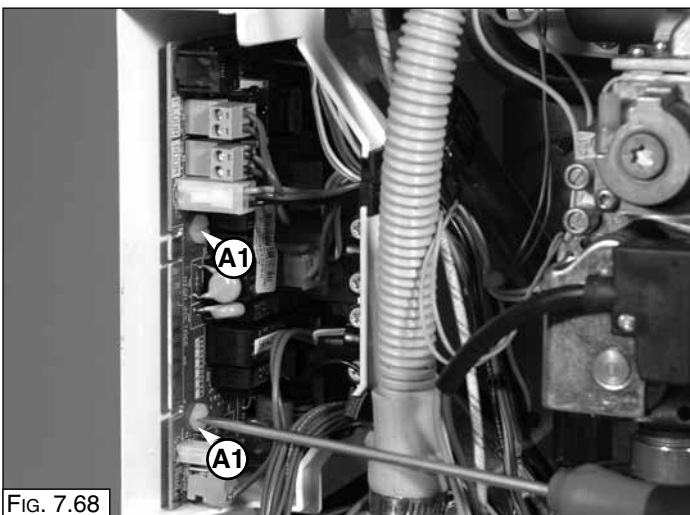

FIG. 7.68
2. Loosen the two screws "A1" and slide the PCB forward before removing the screws (Fig. 7.68).
2. Unplug all the electrical connections and loosen the screws "A1" (Fig. 7.68);